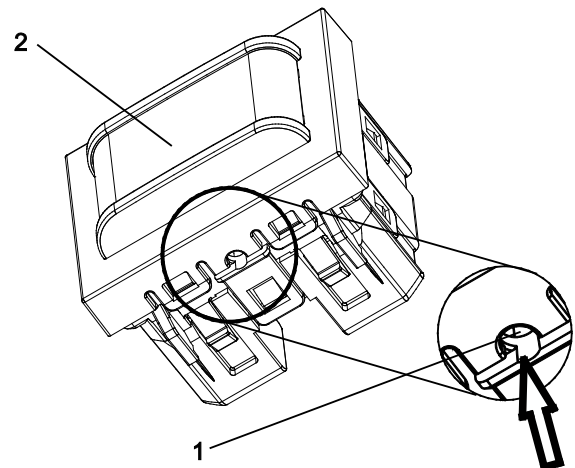

Fig. 8: Position of the programming button and the LED.
1. Press the programming button (Fig. 8, pos. 1) on the device.
The red (programming) LED (Fig. 8, pos. 2) lights up.